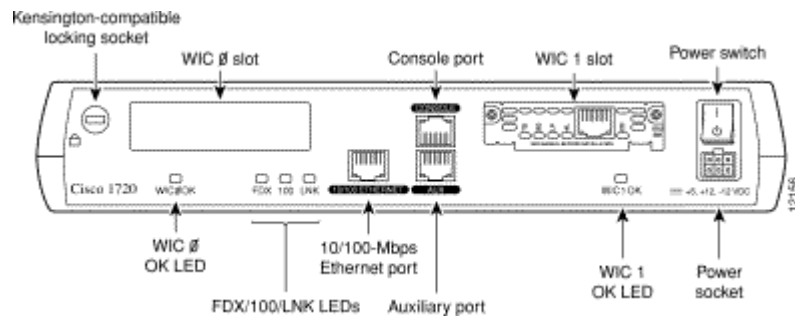

Figure 3
- Step 1** Use the gray RJ-45-to-RJ-45 cable and connect one end of the cable to the ISDN S/T port of the router which is either in the WIC0 or the WIC 1 slot of the router (Figure 3).